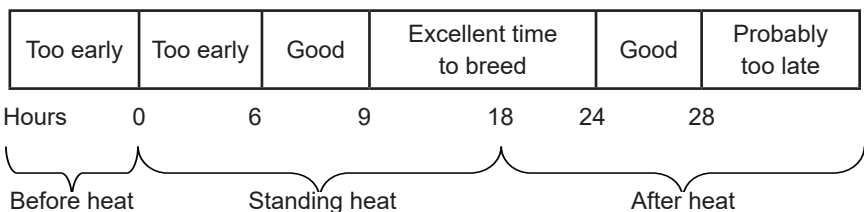

Figure 2. Timing of artificial insemination for maximum conception
Figure 2 offers general guidelines for timing of artificial insemination (AI) based on observed standing heat (estrus). Actual times will vary depending on the length of standing heat, but the goal is to inseminate near the end of a heat period.